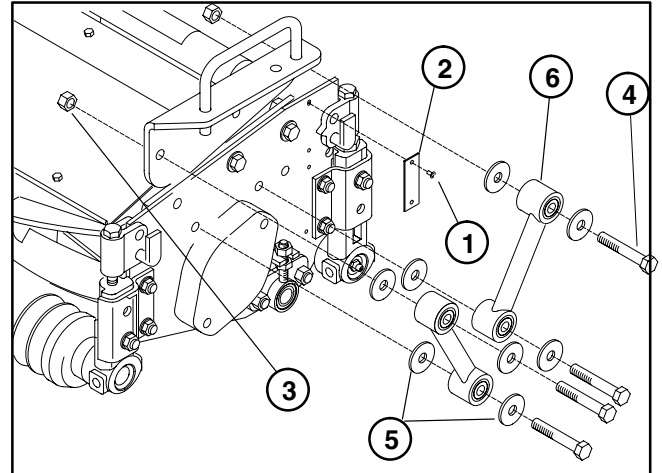

Figure 16
1. Remove pop rivets and rear height-of-cut plates from both sides of the cutting unit (Fig. 16).
2. Remove lock nuts, cap screws, washers, and both links from the cutting unit (Fig. 16).